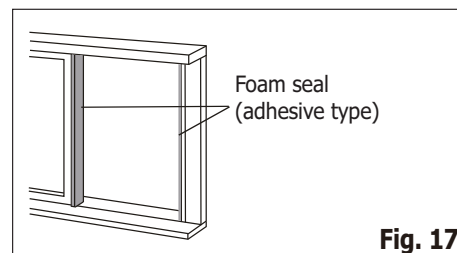

Fig. 17
1. Cut the foam seals(adhesive type) to the proper lengths and attach them to the window frame. See Fig.17.